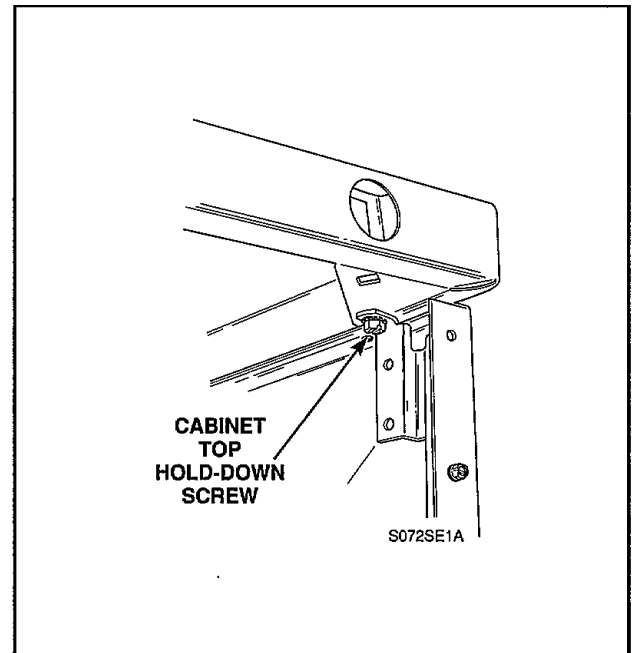

Figure 13
- f. Remove two cabinet top hold-down screws, *Figure 13*.
- Remove two cabinet top hold-down screws, *Figure 13*.
- i. Remove two cabinet top hold-down screws, *Figure 13*.